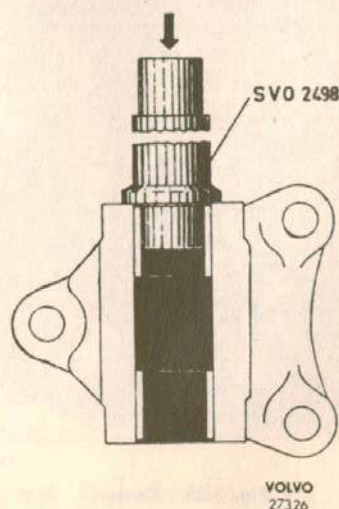

Fig. 6-34. Fitting the bushings
1. Press in the new needle bearings or bushings respectively. In the case of type I idler arm mounting (early production without seal rings), pressing in is done flush with the outer side. On type II (Fig. 6-17), the needle bearings are pressed in so that measurement A is 3.2–3.5 mm (0.126–0.138"). The sealing rings are fitted in these spaces with the lip turned outwards. On type III (Fig. 6-18) the bushings are pressed in 0.3–0.5 mm (0.012–0.020") inside the outer face with the help of drift SVO 2498 (Fig. 6-34). Check the fit of the shaft in the bearings. The shaft should turn easily but without any play. On type III the bushings are reamed with reamer SVO 4153.